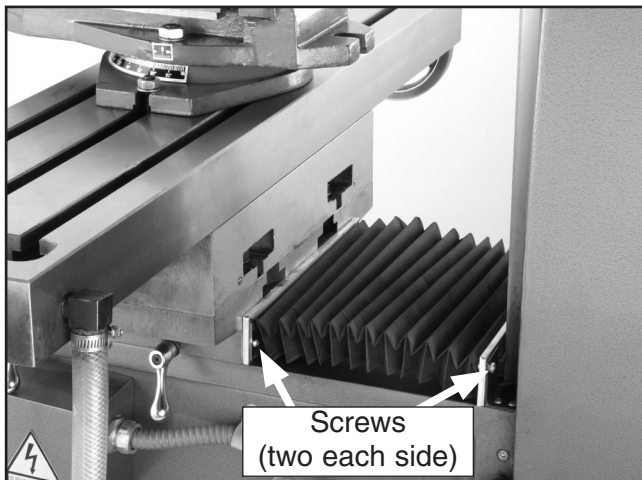

Figure 11. Way cover mounted in the correct location on the machine.
1. Remove the four screws from the machine at the way cover mounting location (**Figure 11**). **Note:** The two screws located near the column use a nut and washer.